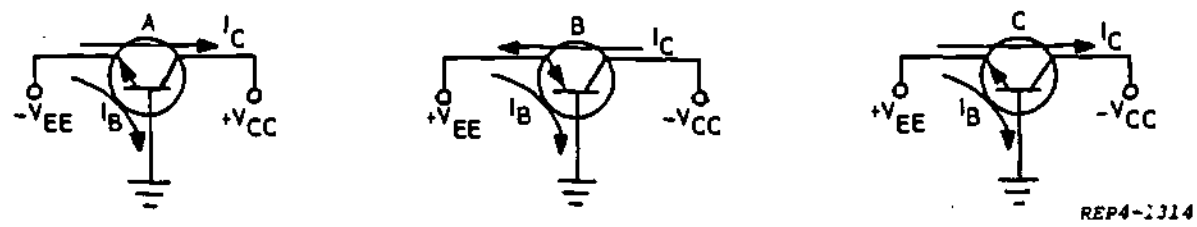

Figure 30-5
19. From the group of diagrams in figure 30-5, select the one which identifies the correct current paths in a grounded base configuration.